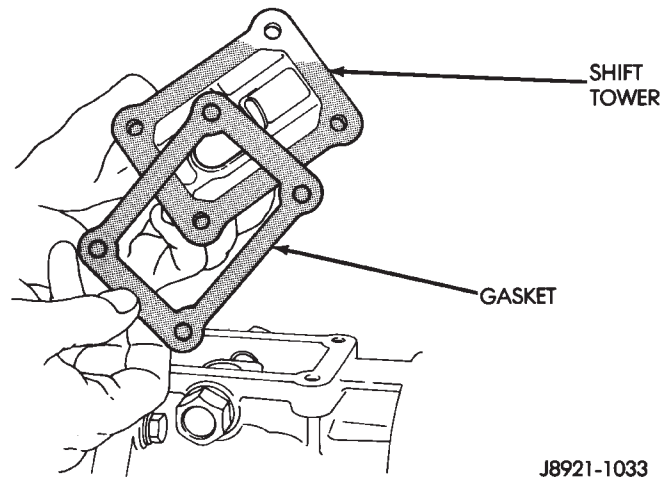

Fig. 18 Remove Shift Tower Gasket
(7) Remove shift tower gasket from shift tower or transmission case (Fig. 18).